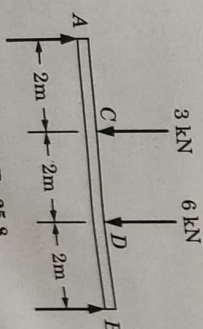

Fig. P. 25.8
- 25.8. A simply supported beam of length 6 m, carries two point loads as shown in Fig. P. 25.8. Draw shear force and bending moment diagrams for the beam. [ $F_{\max} = -5 \text{ kN}$ ,  $M_{\max} = 10 \text{ kNm}$ ]